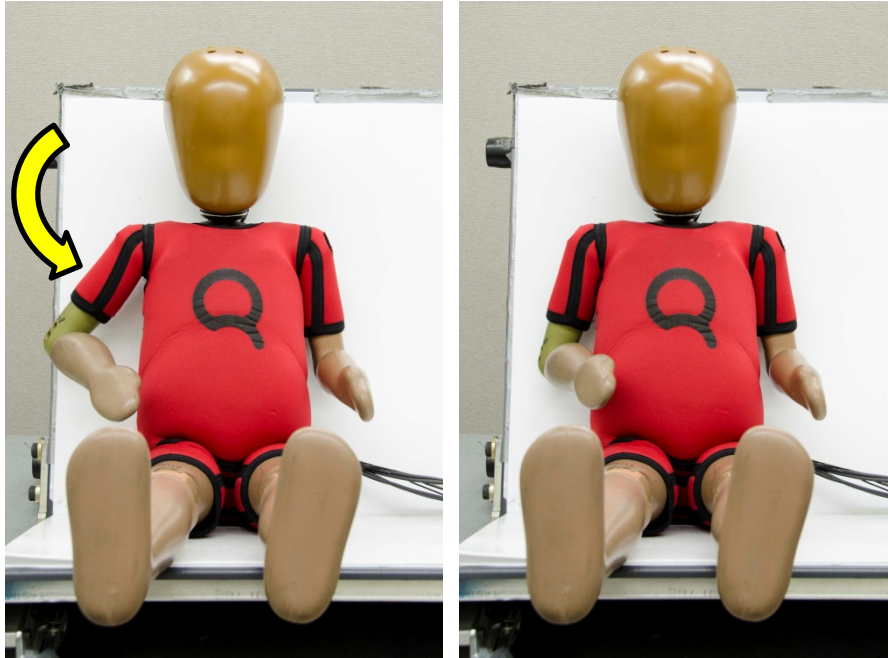

Figure 95. Setting the arm medially for thorax with arm tests
- Move the arm inwards (medially) until initial contact occurs between the sleeve and the portion of the suit covering the thorax (Figure 95).